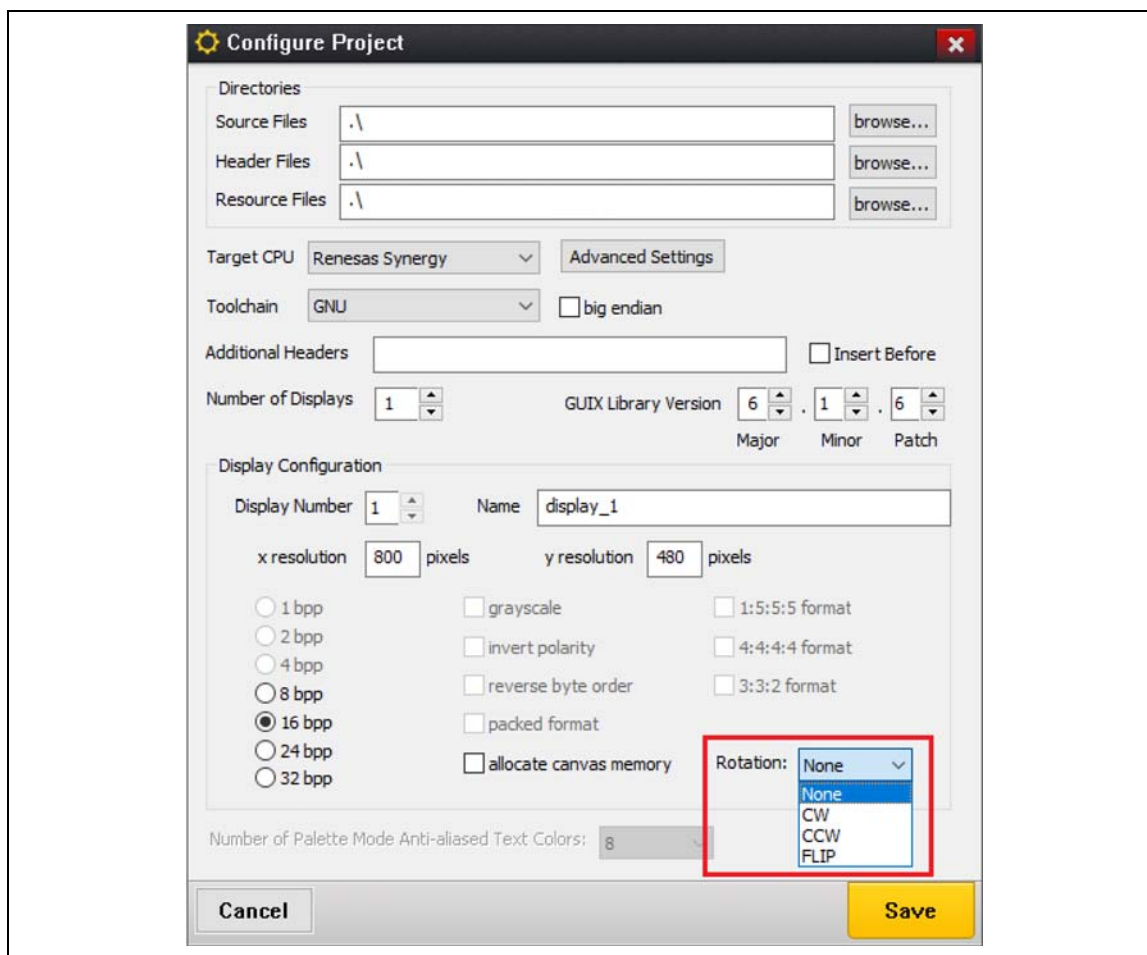

Figure 4. Choosing the Rotation Option from the Configure Project Window
- Click on the drop-down menu for **Rotation** as shown in Figure 4.